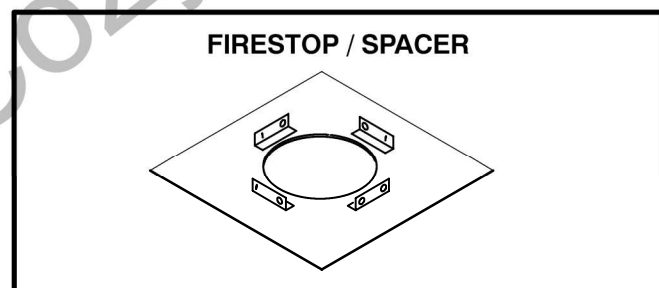

FIGURE 14
- 1 – Provide a firestop / spacer any time vent pipe must pass through a combustible floor or ceiling. See figure 14. Refer listing on page 16 for catalog number of Lennox firestop.